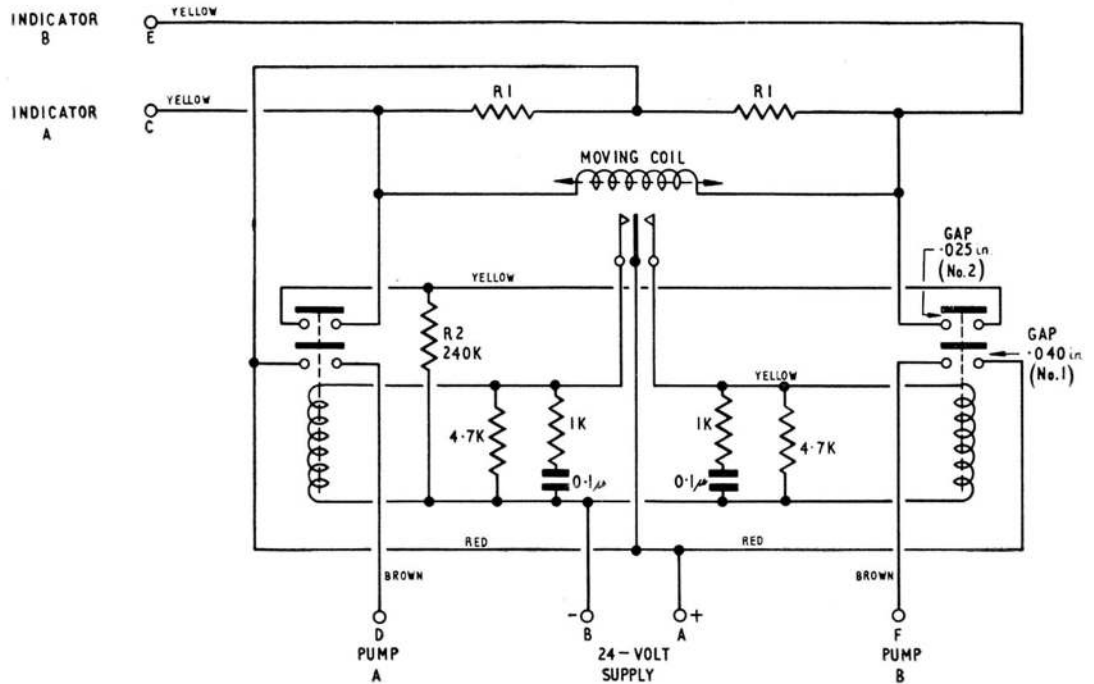

Fig. 3. Circuit diagram
3. A circuit diagram of the balancer relay is given in fig. 3. If the contents of the tanks served by indicator A are in the correct ratio to those of the tanks served by indicator B, the system will be in a state of balance, and no current will flow in the moving coil relay. If, however, the current through one indicator is greater than that through the other, due to unequal fuel content, a current will flow through the moving coil in one direction or the other, depending on which